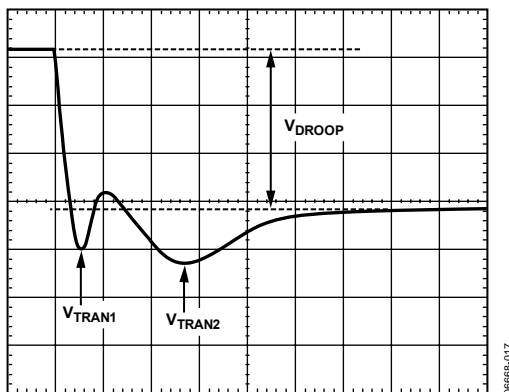

Figure 16. Transient Setting Waveform
18. With the dynamic load still set at the maximum step size, expand the scope time scale to either 2  $\mu\text{s}/\text{div}$  or 5  $\mu\text{s}/\text{div}$ . The waveform can have two overshoots and one minor undershoot (see Figure 16). Here,  $V_{\text{DROOP}}$  is the final desired value.